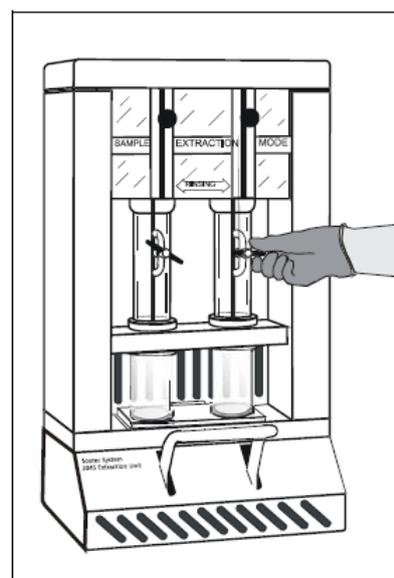

Fig. 5:4
- Boil with the thimbles immersed. (Time depending on sample and solvent type). Make sure that the condenser valves are open (Fig. 5:4).